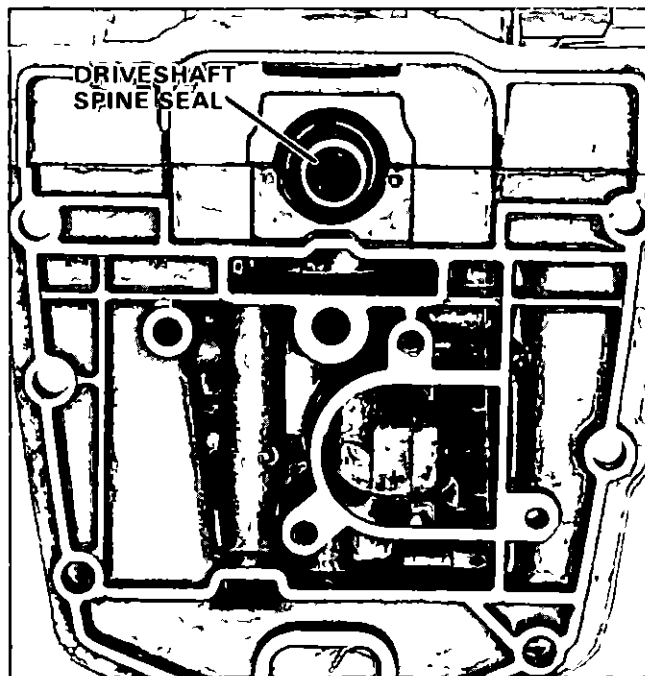

Figure 36 Installing Driveshaft Spline Seal.
- 7 Install drive shaft spline seal. Figure 36